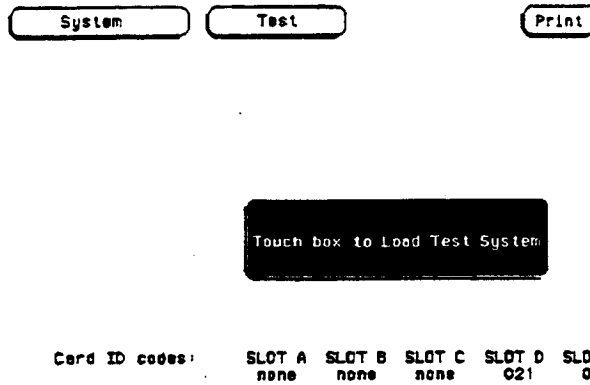

Figure 6-5. Load Test System
- c. Touch box to load Test System. See figure 6-5.